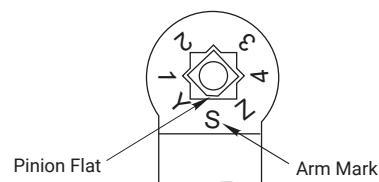

Figure 1
- Install main arm on top of pinion shaft. Align the **pinion flat** with the letter "S". (See Figure 1) Fasten with arm screw.